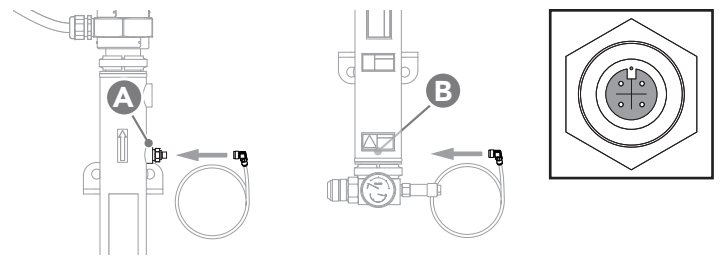

Figure 6. Tank assembly showing high-limit RTD (A) and control RTD behind heating tank assembly (B). Note RTD notch position (inset).
1. Note positions of coolant RTD locations. See Fig. 6.